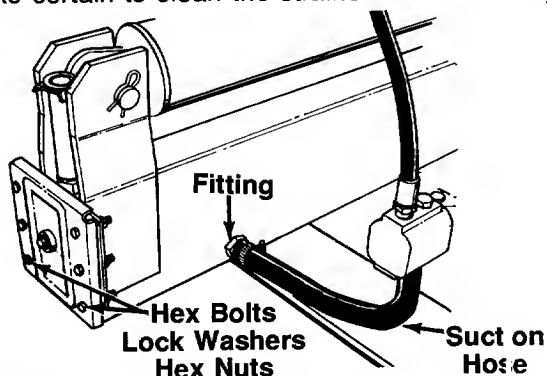

FIGURE 11.
Change the hydraulic fluid in the reservoir every 100 hours of operation. Remove the six hex bolts, lock washers and hex nuts which hold the end plate to the beam. See figure 11. Remove the plate, and drain the fluid into a suitable container. Refill using only Dexron II automatic transmission fluid, as instructed in the "Initial Preparation" section of this manual, page 3. Also, make certain to clean the strainer tube assembly.
1. Loosen the hose clamp on the suction hose at the beam. See figure 11. Disconnect the hose from the beam.